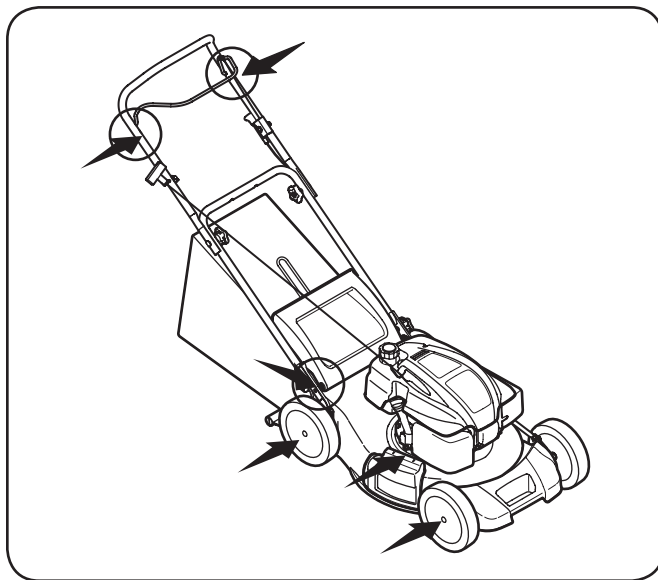

Figure 6-1
1. Lubricate pivot points on the blade control at least once a season with light oil. This control must operate freely in both directions. See Fig. 6-1.
2. Lubricate the wheels at least once a season with light oil (or motor oil). If wheels are removed for any reason, lubricate surface of the pivot arm and inner surface of the wheel with light oil. See Fig. 6-1.
3. Lubricate the torsion spring and pivot point on the rear discharge door and side mulch plug periodically with light oil to prevent rust. See Fig. 6-1.